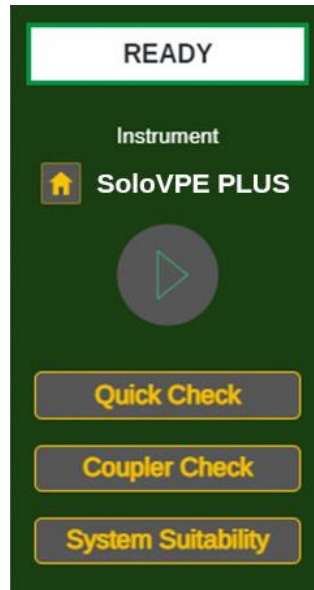

Figure 14. Validate VPT App: Instrument Control panel.
1. Press the Coupler Check button on the Instrument Control panel in the Validate VPT application, as seen in Figure 14.